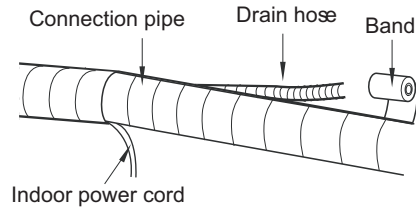

Fig.15
(2) Reserve a certain length of drain hose and power cord for installation when binding to a certain degree, separate the indoor power and then separate the drain hose.(As show in Fig.15)
(3) Bind them evenly.
(4) The liquid pipe and gas pipe should be bound separately at the end.